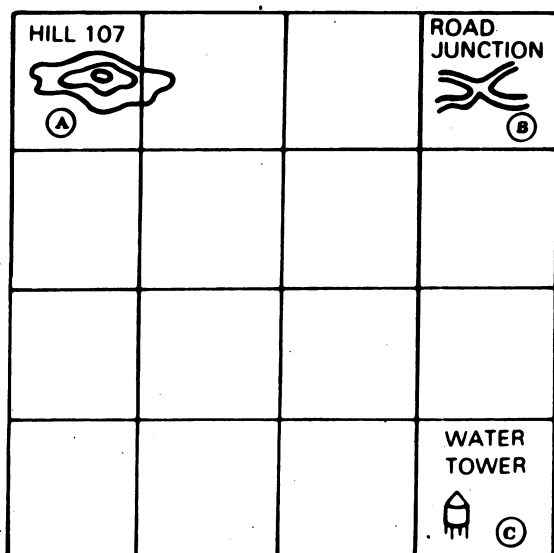

Figure 1a
STEP 2: Locate two known positions on the ground and mark them on your map (fig. 1a).